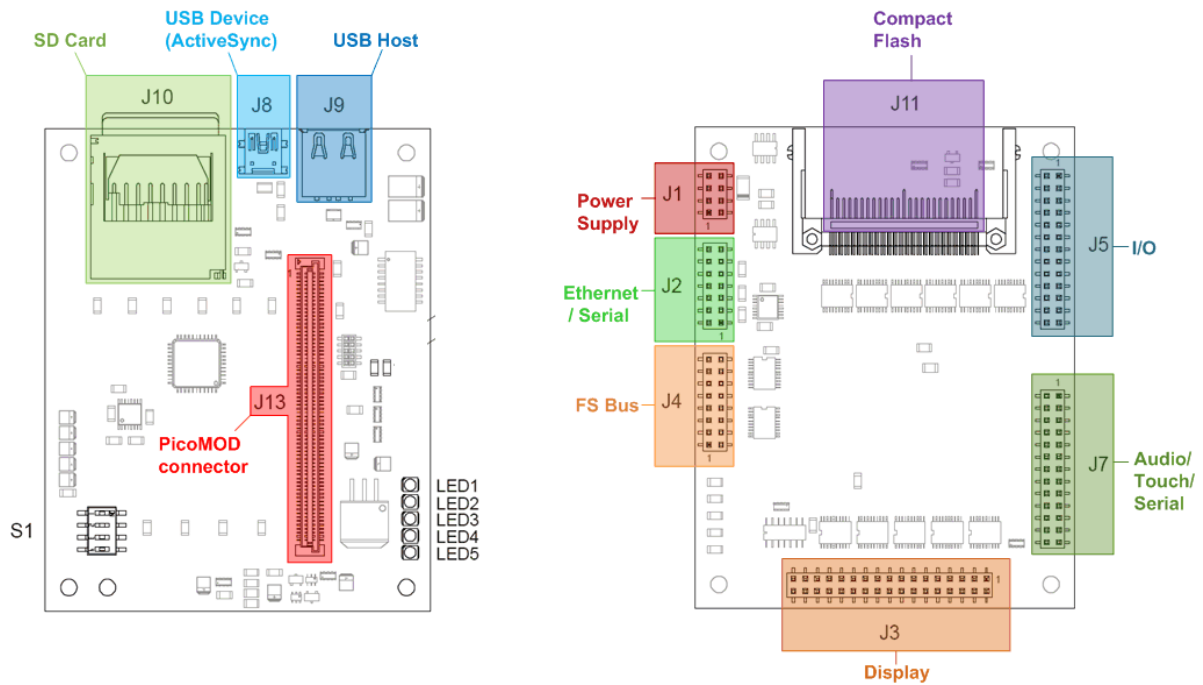

Figure 1: PicoMOD-Starterkitf without PicoMOD module
- Make a cable between power connector of PicoMOD Startintf and your power supply. Usually you need to connect ground and +5V (2A). Please refer R16 / R17 (Figure 1) for 3.3V or 5V power supply.